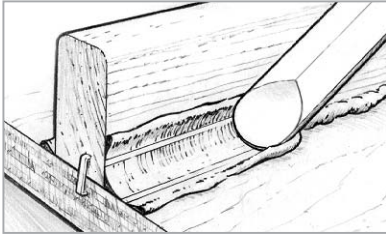

Figure 13 Shape and smooth the fillet with a rounded filleting tool.
2. Shape and smooth the squeezed-out thick epoxy into a fillet by drawing a rounded filleting tool (mixing stick) along the joint, dragging excess material ahead of the tool and leaving a smooth cove-shaped fillet bordered on each side by a clean margin. Some excess filleting material will remain outside of the margin (Figure 13). Use the excess material to refill any voids. Smooth the fillet until you are satisfied with its appearance. A mixing stick will leave a fillet with about a $\frac{3}{8}$ " radius. For larger fillets, an 808 Plastic Spreader, cut to shape or bent to the desired radius, works well.